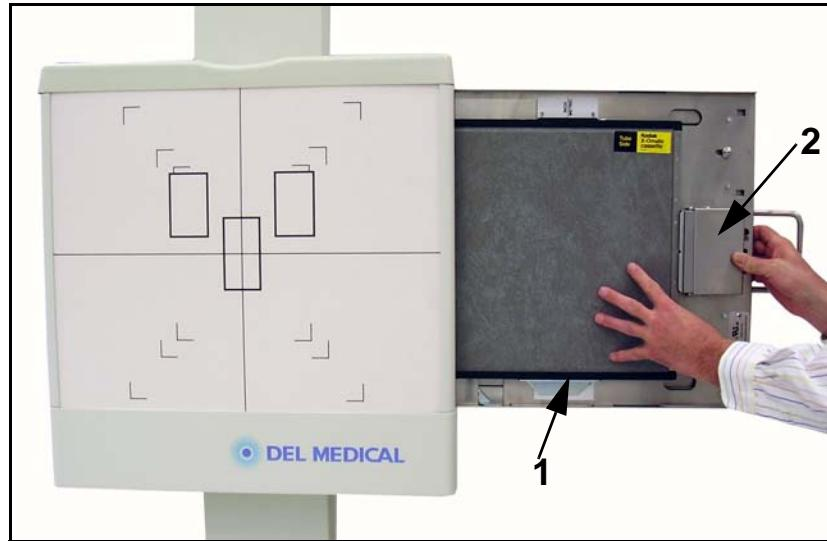

Figure 3-4. Cassette & Clamp
- 4 Insert cassette (1 in Figure 3-4) into tray.
- 5 Slide clamp (2) up to cassette and close clamp.